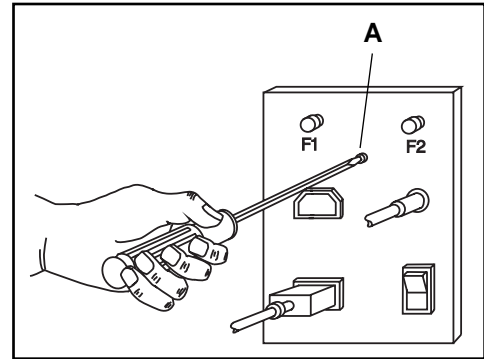

Figure 2.4
2. Using a flat blade screwdriver, move the power selection indicator (A) located on the power panel on the left side of the instrument to 90-132 VAC or 198-264 VAC, as appropriate for your power supply. (Figure 2.4)